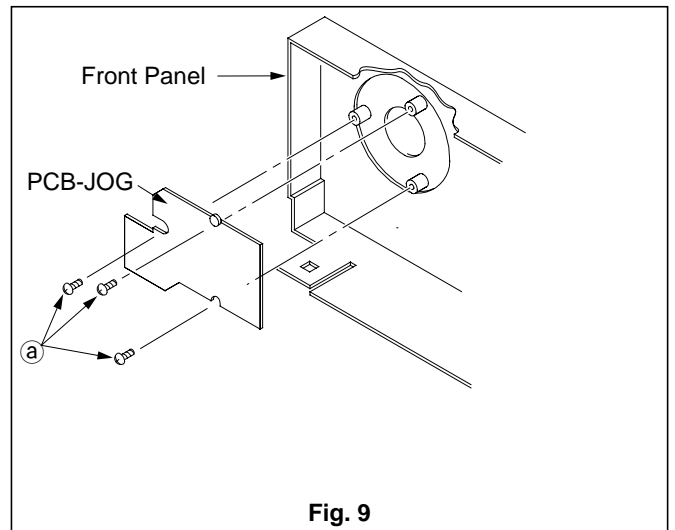

Fig. 9
3. Unfasten the three screws (a) shown in Fig. 9 and remove the PCB-JOG.